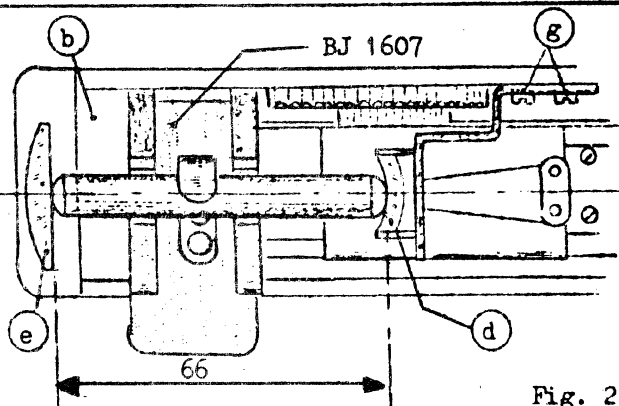

Fig. 2
1.2 Fitting the fixed lens element (fig. 2)